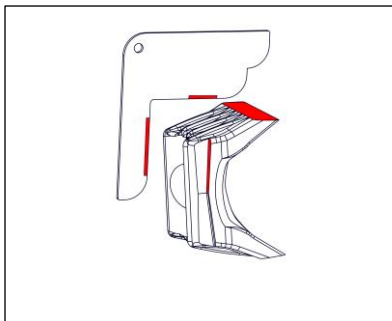

Figure 1
2. Place the Viking sharpening gauge over the tooth as shown in Figure 1